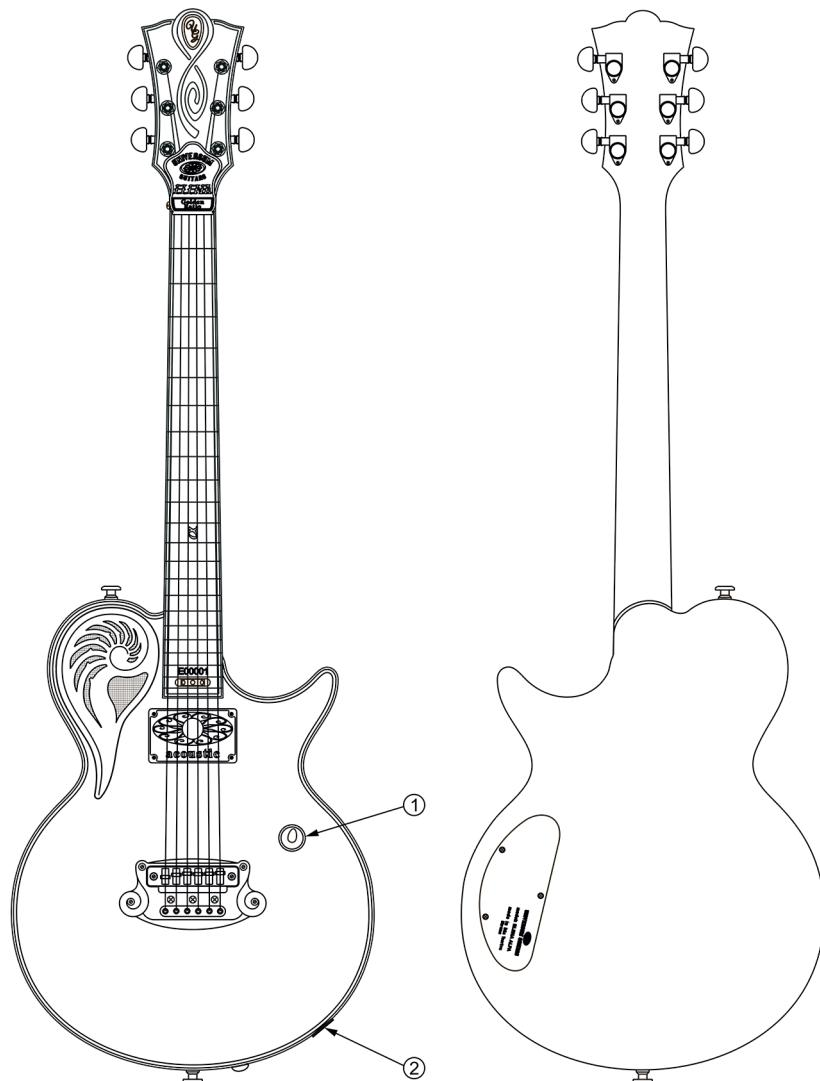

Fig. 22
- Output connector – acoustic (Fig.22 Pos.2).
- Power element – 1 off (located in equalizer chamber, Fig.22).
- 1) Volume adjusting potentiometer handle (Fig.22 Pos.1).